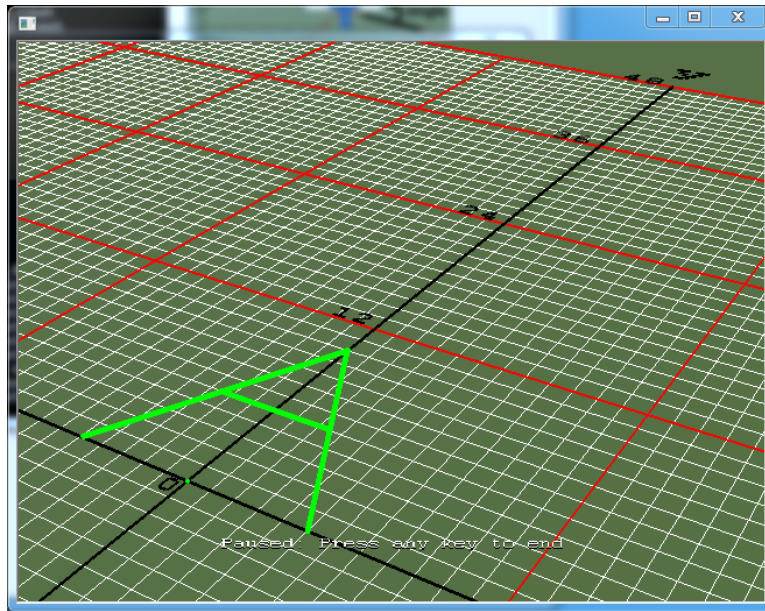

Figure 9.17: Moving a virtual Linkbot-I to trace a letter 'A'.
2. Write a program `traceon3.ch` to trace the letter 'A' in RoboSim as shown in Figure 9.17. The horizontal line for the letter 'A' can be drawn from the point $(-2.5, 5)$ to the point $(2.5, 5)$.